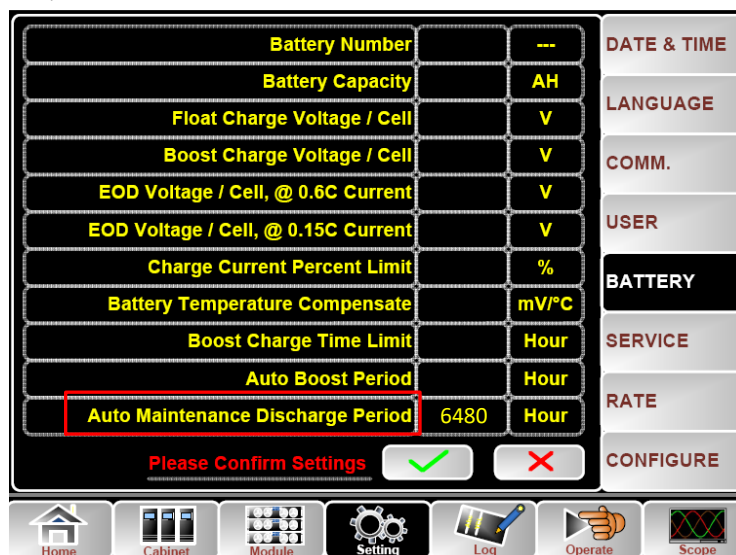

Fig.5-5 Setting period for battery auto discharge
- (b) Setting period for battery auto discharge. Enter the "BATTERY" page of the Setting (See Fig.5-5), Set the period time in the item "Auto Maintenance Discharge Period" and confirm.